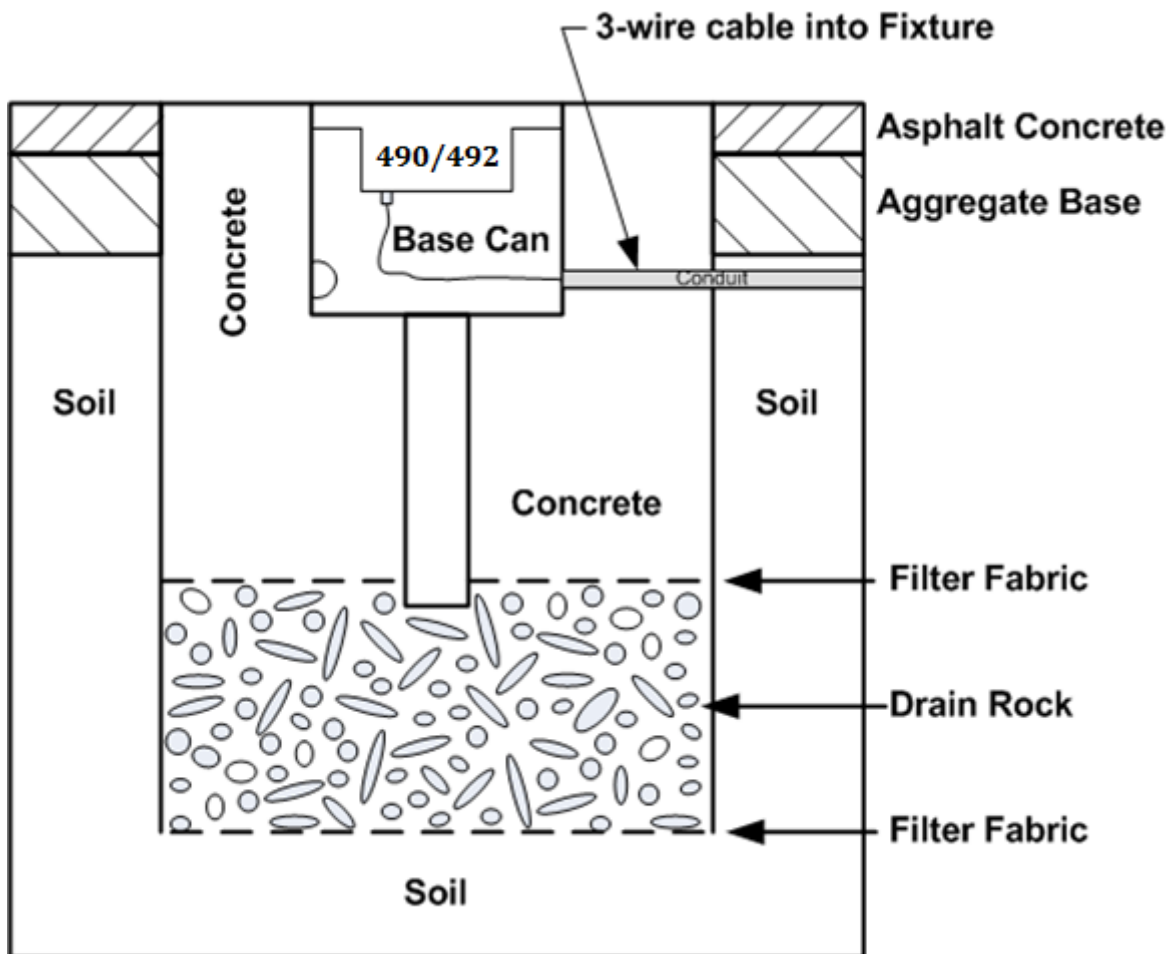

Figure 1
1. Proper drainage is critical for longevity of the fixture since water intrusion can destroy the electronics inside the fixture. The fixture is weatherproof and some water is expected to enter the base can, but provisions must be made to drain the water. Figure 1 outlines the suggested installation for proper drainage: